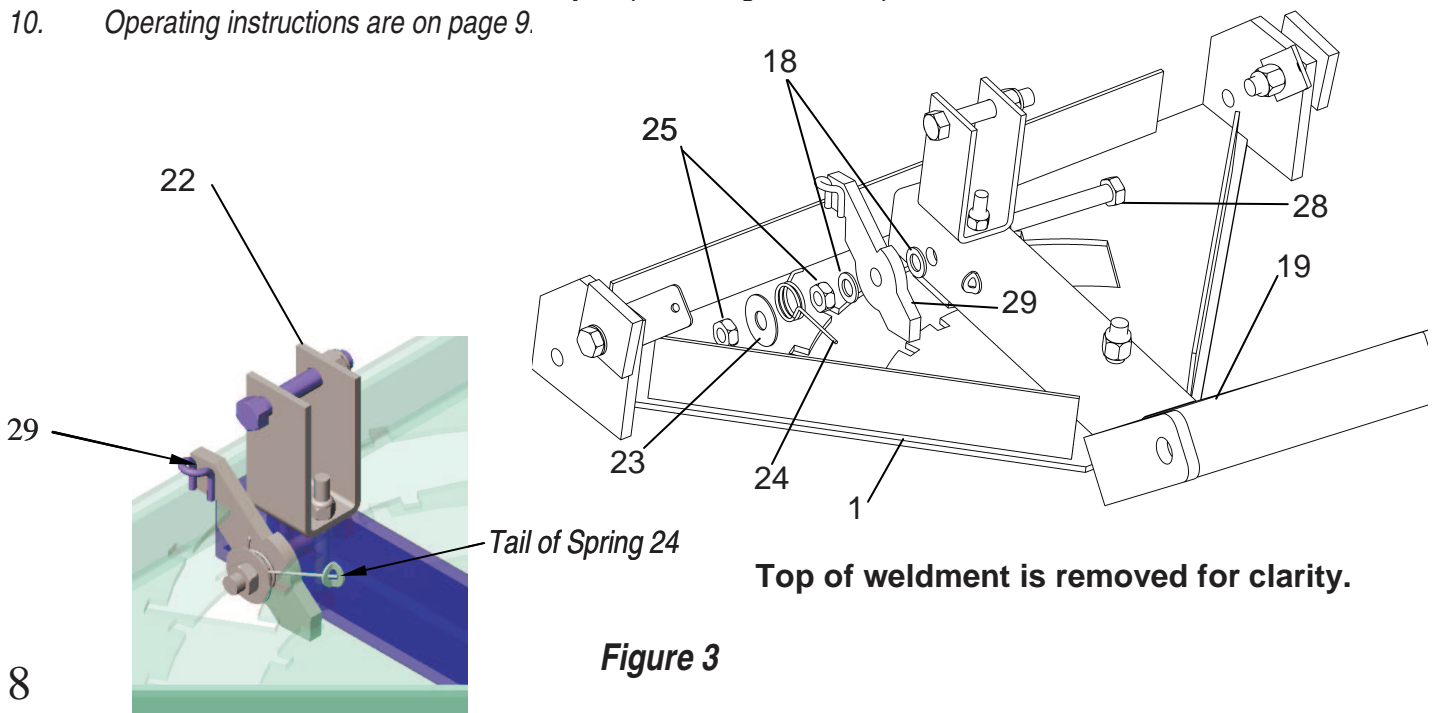

Figure 3
1. Disassemble Pivot Latch assembly from the plow mount. Lay parts down in the exact order they were removed. Replace lock nuts (25) with lock nuts in hardware kit.
2. Slide the plow mount (19) into pivot weldment (1), secure with $\frac{1}{2}$ -13 X 3 1/2 bolt (28) and $\frac{1}{2}$ -13 nyloc nut (13).
3. Re-assemble the Pivot Latch assembly in the reverse order that it was removed in step 1. The Pivot Latch assembly consists of the following components - lock arm (29), two bushing (18), two $\frac{1}{2}$ -13 lock nut (25), Washer (23), pivot spring (24) and $\frac{1}{2}$ -13 X 3 1/2 bolt (28) to plow mount (19). Make sure the tail of the pivot spring is secured into the bent washer on plow mount, see fig 3. Note, lock arm should be able to pivot freely after assembled.
4. Bolt plow mount bracket (22) and plow bracket support (27) to plow mount (19), as shown, using two 3/8-16 X 3 bolts (30) and two 3/8-16 nyloc nuts (7).
5. Insert $\frac{1}{2}$ -13 X 3 bolt (26) into plow mount bracket (22) and secure with $\frac{1}{2}$ -13 nyloc nut (13). Do not over tighten as this can bend the plow mount bracket. This is where you will attach your winch or manual lift pulley, sold separately.
6. With your Swisher ATV Accessory Mount already installed, attach the plow using plow mount pin (20) and two 3/16 click pins (21).
7. Attach red rope (31) to eyelet on lock arm (29) and loop over front of ATV so it can be reached by the operator.